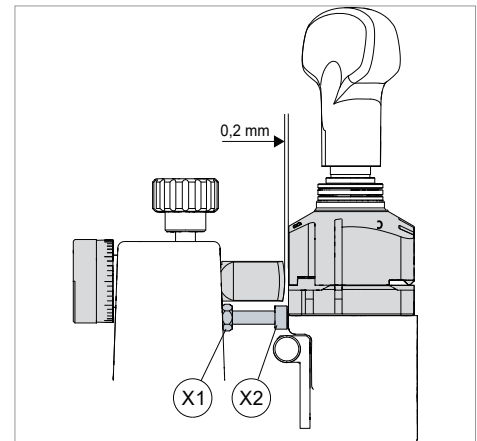

Fig. 37
- 1) Raise the carriage and carry the clamps to the end of its run towards tracer point and cutting tool (Fig. 37)